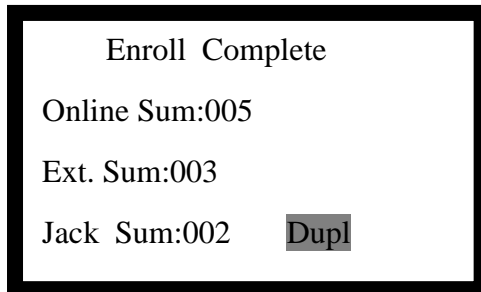

Fig. 4-11
Fig.4-11 screen is shown after completing enroll.
- The screen shown as Fig.4-11 goes back to the normal operating screen after about four seconds. Refer to Section 4.3 for looking up registered devices or repeated codes.